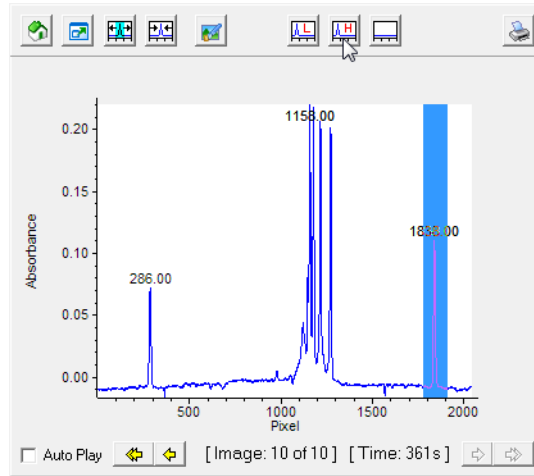

Figure 7-12: Setting the high pl marker.
3. Set the high pI marker. Click in the electropherogram and drag the mouse over the high pI marker peak (typically the last peak) as shown in Figure 7-12. If there are multiple peaks at the end of the data, the high pI marker will be the largest peak.